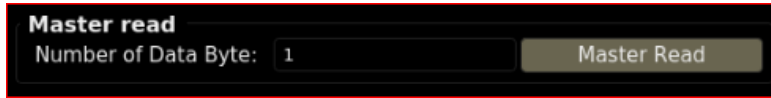

Figure 6.20. I²C Master Read
- Enter the number of bytes to read in the **Number of Data Byte** box as shown in Figure 6.20 and click **Master Read**. The results of the read transaction are shown in the transaction log table, and the data value read out can be found in the data column of the transaction log table.